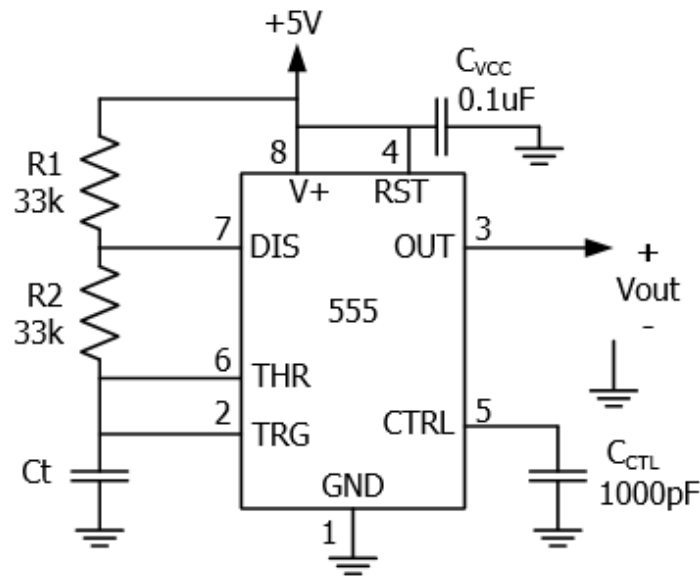

Figure 1. 555 Timer Oscillator Circuit Schematic
1. Construct the circuit as shown in Figures 1 and 2. Be sure to measure and record all component values before installing them in the circuit.